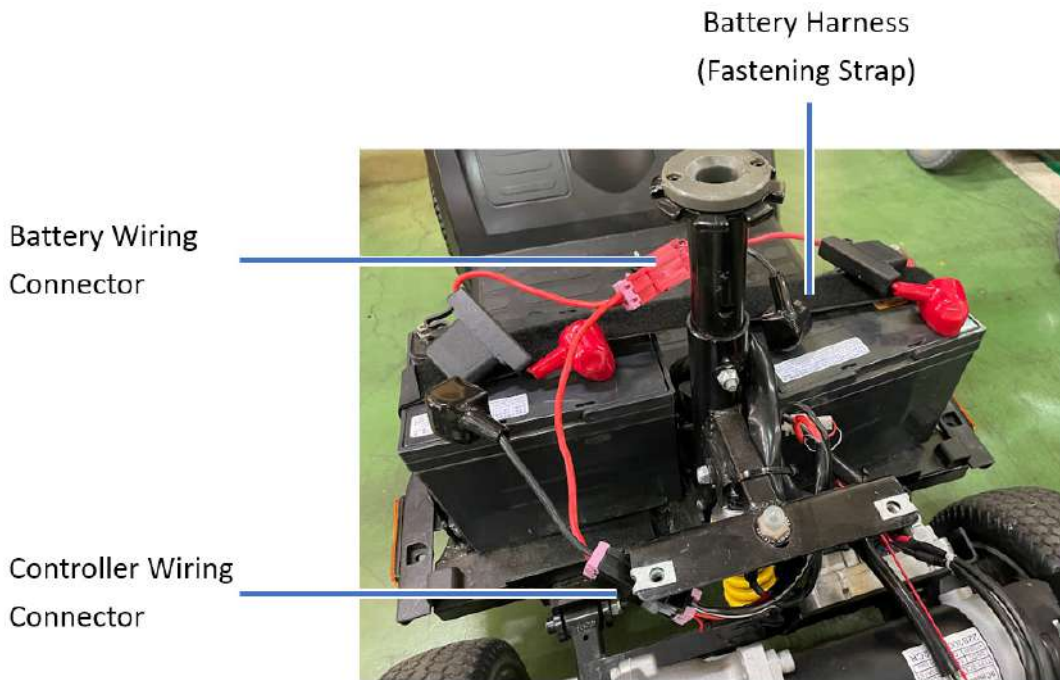

Figure 8.3
- 8.6.5 Disconnect the connectors of the battery from the connectors of the central relay box. (See Figures 8.3 and 8.4)